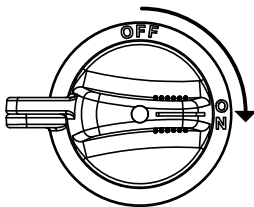

Figure 49. Battery Switch (ON)
3. Place the **Battery switch** (Figure 49) in the **ON** position.